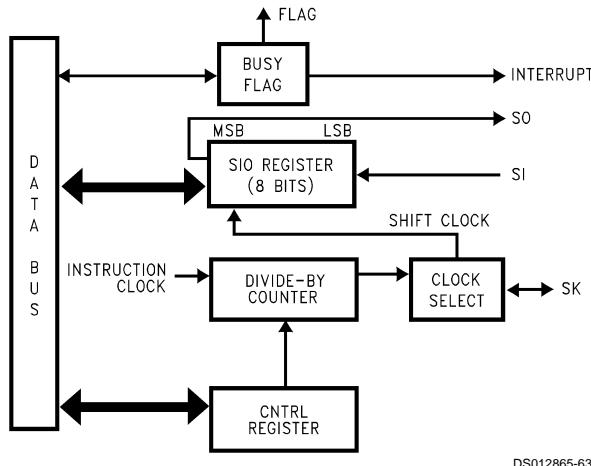

FIGURE 17. MICROWIRE/PLUS Block Diagram
MICROWIRE/PLUS is a serial synchronous communications interface. The MICROWIRE/PLUS capability enables the devices to interface with any of National Semiconductor's MICROWIRE peripherals (i.e. A/D converters, display drivers, E2PROMs etc.) and with other microcontrollers which support the MICROWIRE interface. It consists of an 8-bit serial shift register (SIO) with serial data input (SI), serial data output (SO) and serial shift clock (SK). Figure 17 shows a block diagram of the MICROWIRE/PLUS logic.